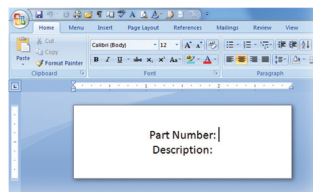

FIGURE 7 Word document ready to receive data from an Excel spreadsheet
E. Now **open the Word template you want to import your Excel data into**. In Figure 7 the static text "Part Number:" and "Description:" are already typed in. Now place your cursor where you want to insert your data.